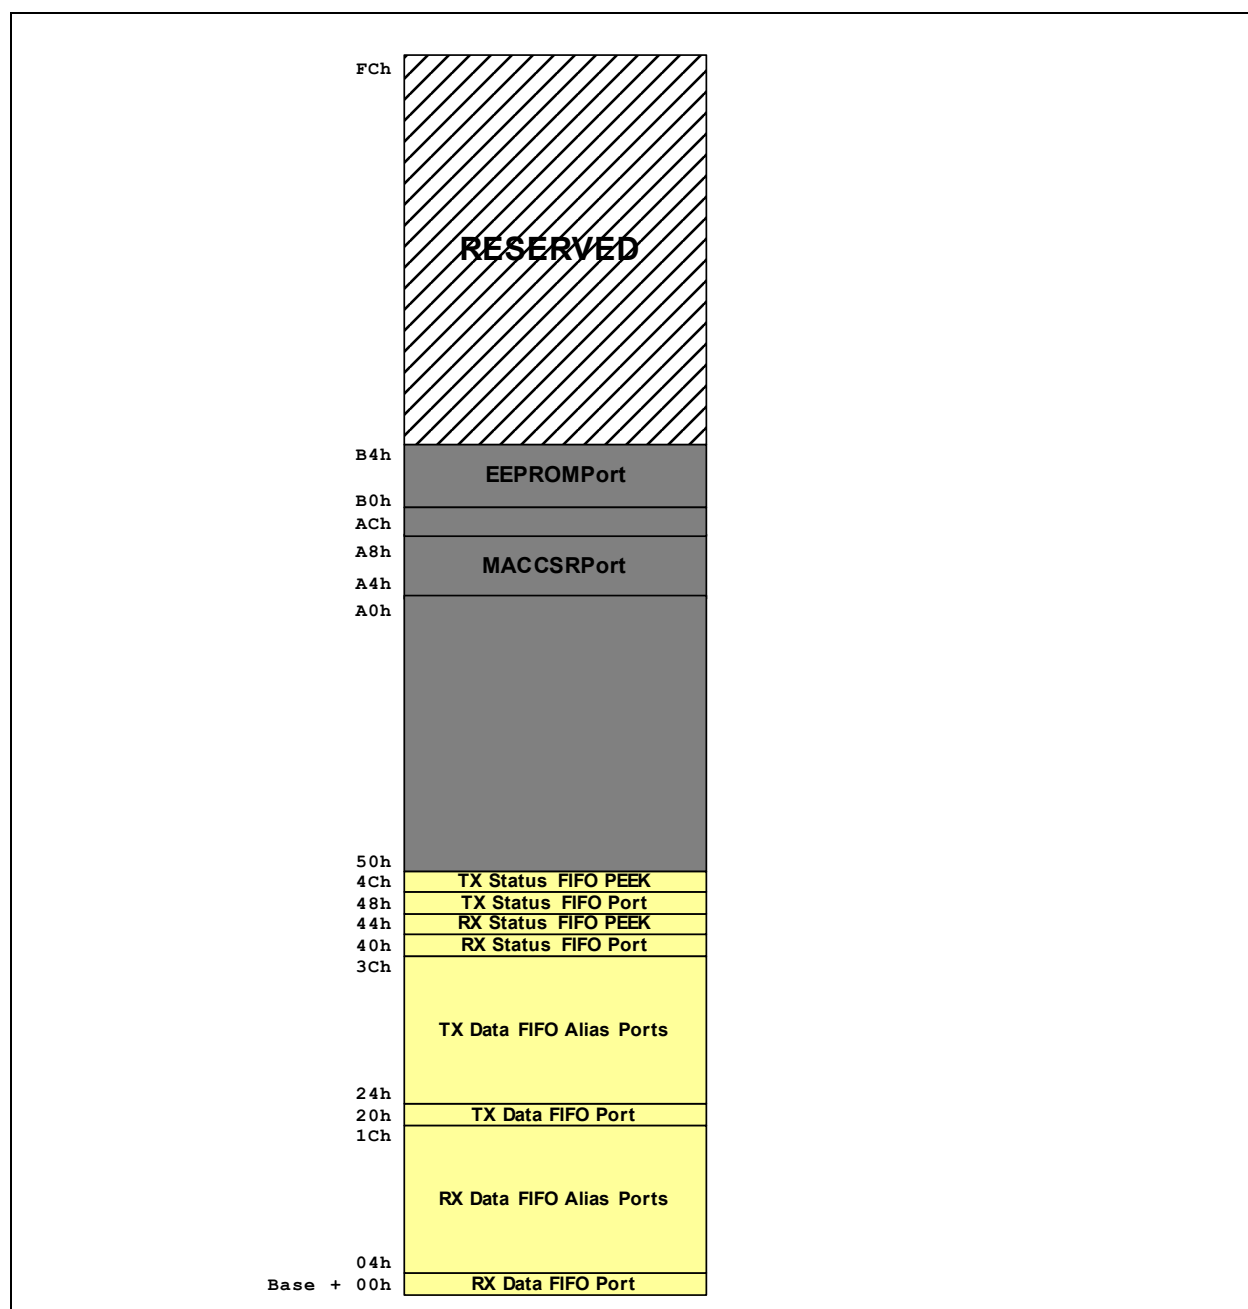

Figure 5.1 Memory Map
**Note 5.1** The LAN9215 host bus interface supports 16-bit bus transfers; internally, all data paths are 32-bits wide. Figure 5.1 describes the memory map with respect to pairs of atomic 16-bit transactions.